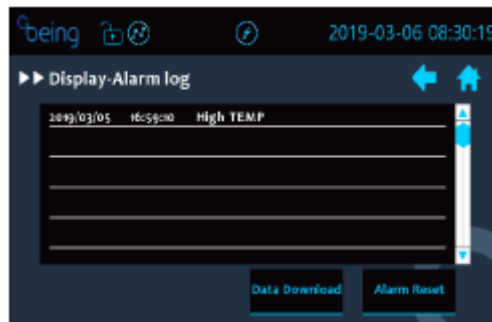

Figure 1-30.
4. Touch the “Alarm Event” button from the display page to enter the alarm log page, as shown in Figure 1-30.